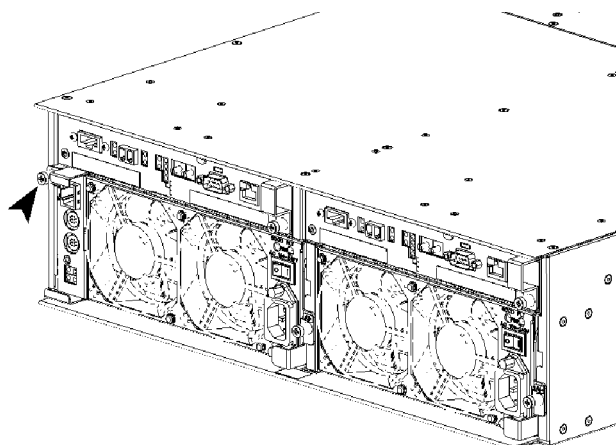

Figure 3-11. Loosening the SVP Service Processor Ejector Screw.
2. Loosen a screw securing the SVP service processor to the chassis. See Figure 3-11.